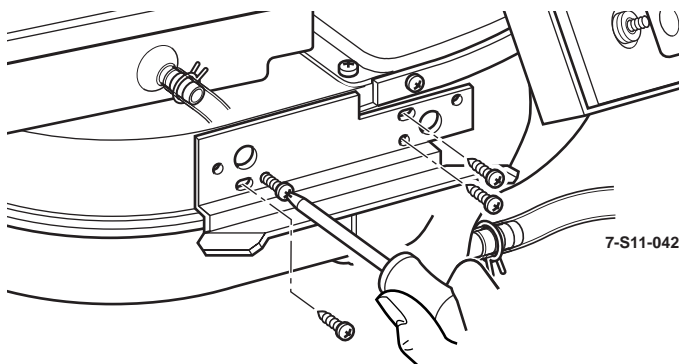

Figure 11-95: Lower Support Bracket Removal
- Remove lower support bracket from HVAC case (Figure 11-95).
- Disconnect vacuum harness from vacuum motors. Motors are color coded to vacuum tubing (Figure 11-95).